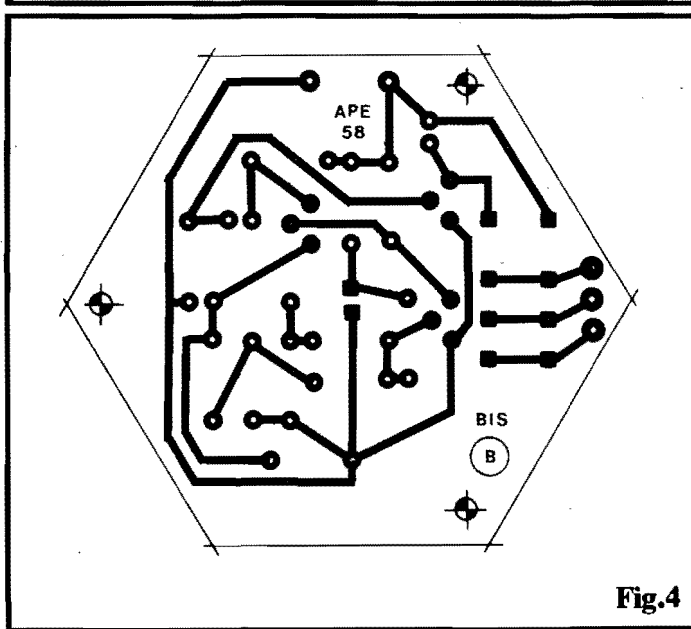

Fig.4
- FIG. 4 - LAY OUT DO CIRCUITO IMPRESSO ESPECÍFICO (RECEPTOR)